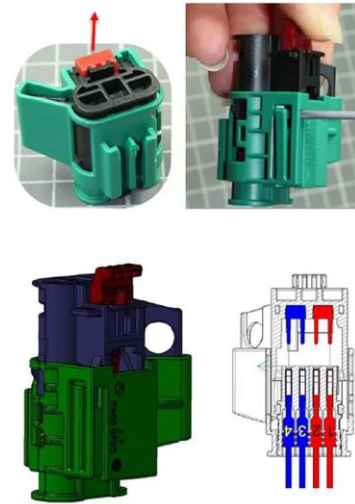

Figure 2 – HVDL Connector
12. Open the High Voltage Disabling and Lockout (HVDL) connector located under the 12-volt battery cover by lifting the red Connector Position Assurance (CPA) lock tab on the black portion of the green HVDL connector. Using a small screwdriver or probe, lift the lock arm as shown and lift the black portion of the device until the padlock hole is completely exposed. When the center safety lockout loop of the connector is raised, a hole for a safety lock is exposed (Figure 2).
27. Open driver door and close the HVDL connector and CPA lock tab (Figure 2).